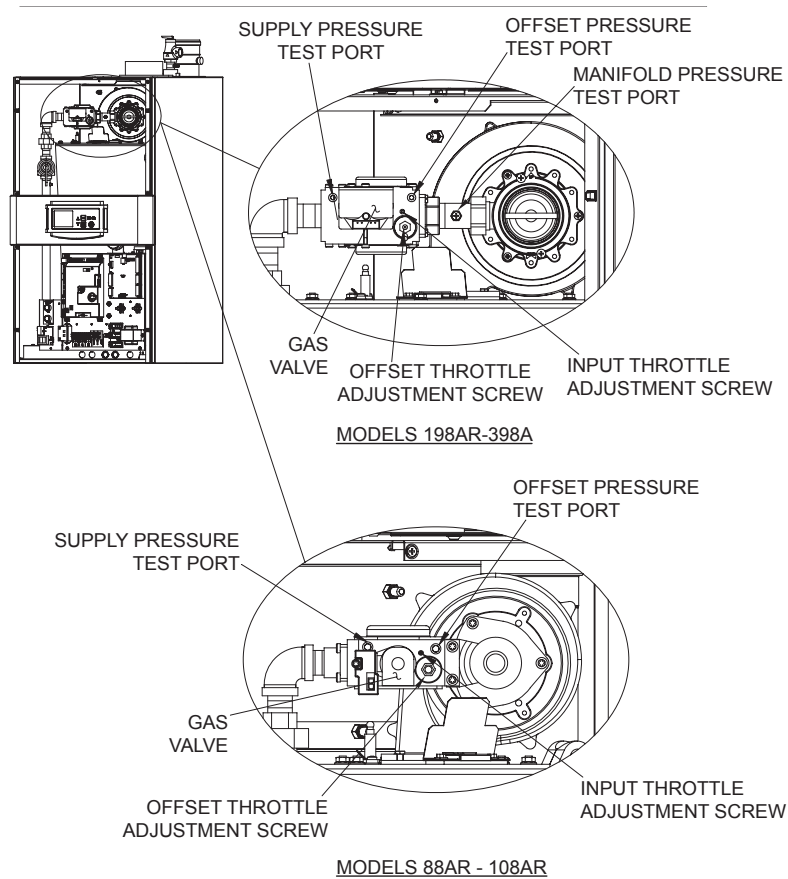

Figure 53. Gas Pressure Measurement Locations
2. Attach a 24" scale manometer to the supply pressure test port on the gas valve to the heater. See Figure 53.
3. Attach a 12" scale manometer to the offset pressure testport for Models 88AR-108AR. For Models 198AR-398A attach manometer to manifold pressure tap. See Figure 53.